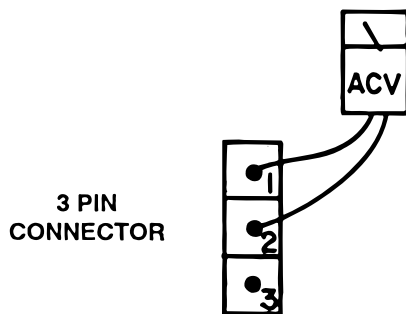

Figure 5-13. Back View Connector C'
3. Use a voltmeter capable of measuring 120 VAC and measure the following connector pins in connector C'. See figure 5-13.
3. Use the R x 100 scale of the ohmmeter and touch pins 2 and 3 of connector C'. See figure 5-13.